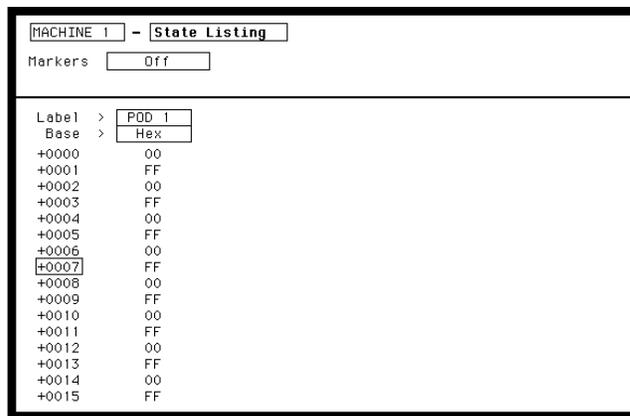

Figure 3-17. State Listing for Data Test 3
- Press RUN. The **State Listing** is displayed and lists alternating Fs and 0s as in figure 3-17, if test has passed.